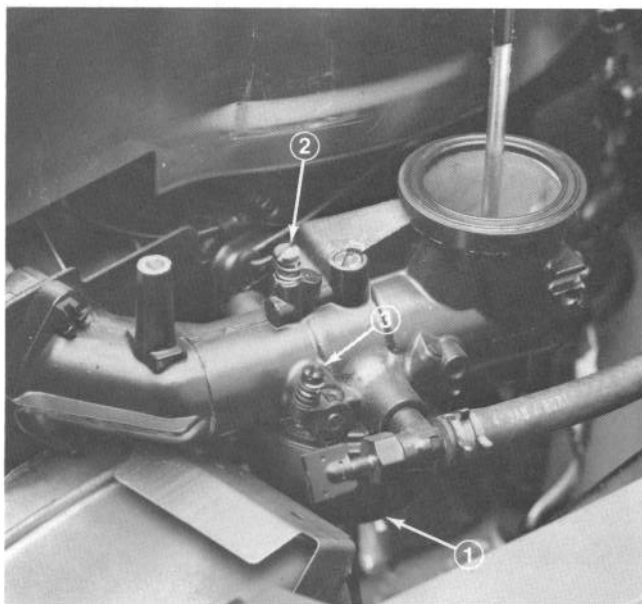

Figure 23
1. Needle Valve (Fig. 23) — Close valve by gently rotating it clockwise.
2. Rotate — open — the needle valve 2 turns counterclockwise (Fig. 23).
4. Rotate needle valve (Fig. 23) clockwise, 1/8 turn at a time, until engine starts to lose speed. Let engine react to each 1/8 turn setting.
5. Rotate needle valve (Fig. 23) counterclockwise — out — 1/8 turn at a time, until engine first runs rough. Let engine react to each 1/8 turn setting.
6. Rotate needle valve (Fig. 23) clockwise — in — very slowly until engine starts to run smoothly. This setting, under no load, may be slightly rich; however, the slightly rich setting will assure proper operation when engine is under load.